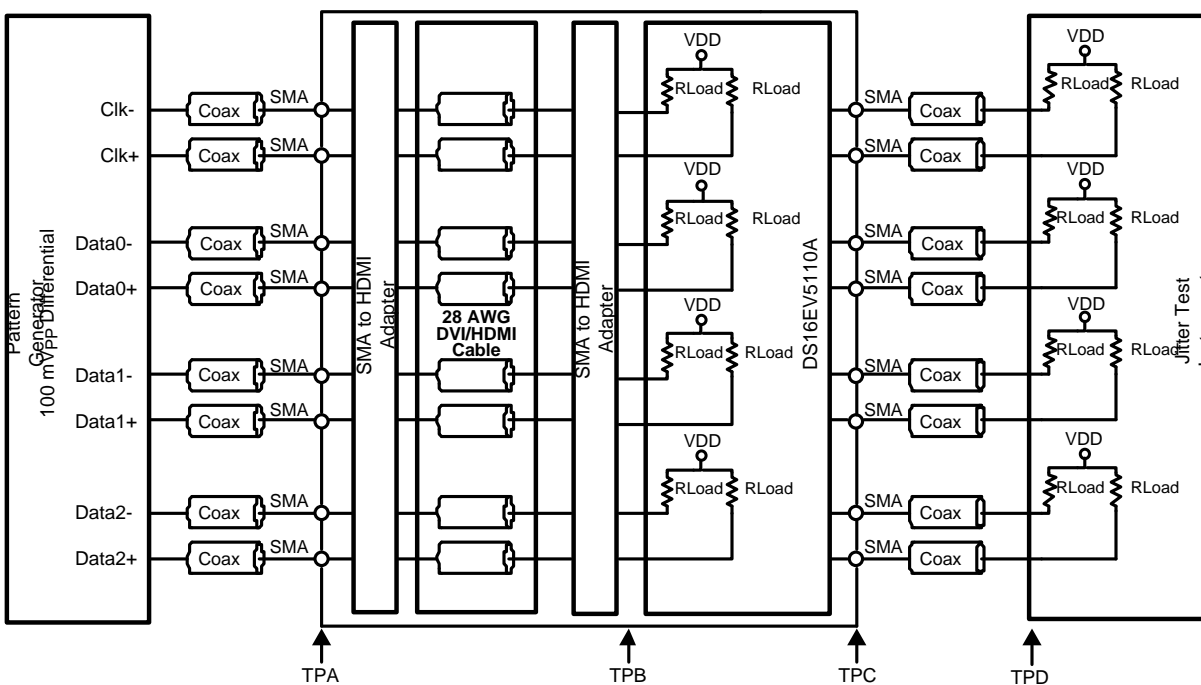

Figure 2. Test Setup Diagram for Jitter Measurement
| V _{TX} | Input Voltage Swing (Launch Amplitude) | Measured differentially at TPA (Figure 2) | 800 | | 1200 | mV _{P-P} |
| V _{ICMDC} | Input Common-Mode Voltage | DC-Coupled Requirement Measured at TPA (Figure 2) | V _{DD} -0.3 | | V _{DD} -0.2 | V |
| V _{IN} | Input Voltage Swing | Measured differentially at TPB (Figure 2) | | 120 | | mV _{P-P} |
(3) Allowed supply noise (mV_{P-P} sine wave) under typical conditions.
(4) Specification is ensured by characterization and is not tested in production.
(5) Deterministic jitter is measured at the differential outputs (TPC of Figure 2), minus the deterministic jitter before the test channel (TPA of Figure 2). Random jitter is removed through the use of averaging or similar means.
(6) Total Jitter is defined as peak-to-peak deterministic jitter from ⁽⁵⁾ + 14.2 times random jitter in ps_{rms}.
(7) Random jitter contributed by the equalizer is defined as $\sqrt{J_{OUT}^2 - J_{IN}^2}$. J_{OUT} is the random jitter at equalizer outputs in ps_{rms}, see TPC of Figure 2; J_{IN} is the random jitter at the input of the equalizer in ps_{rms}, see TPA of Figure 2.